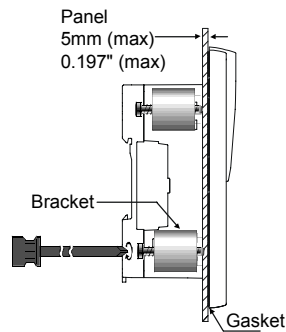

Figure 5. Panel-Mounting
5. Hold the bracket against the unit while tightening the bracket screws against the panel as shown in Figure 5.